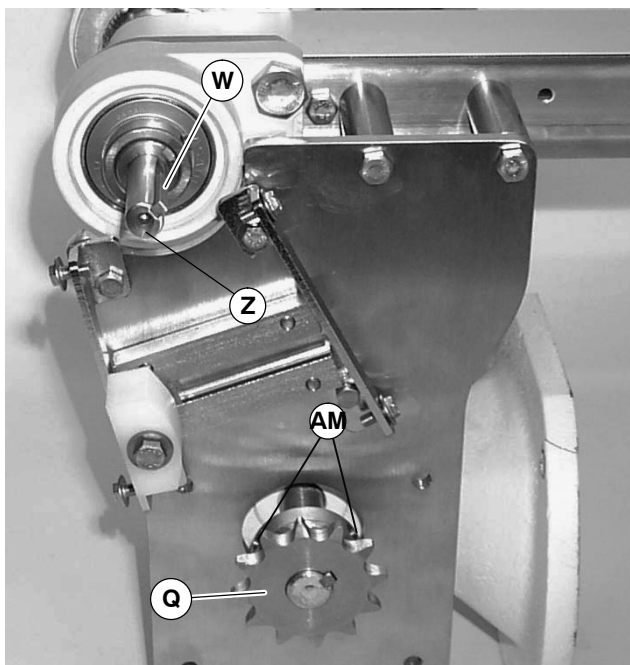

Figure 12
1. Install key (W of Figure 12) into conveyor drive shaft (Z).
NOTE: Depending on sprocket sizes, it may be necessary to remove drive sprocket (Q of Figure 12) by loosening two set screws (AM) to install chain and sprockets.